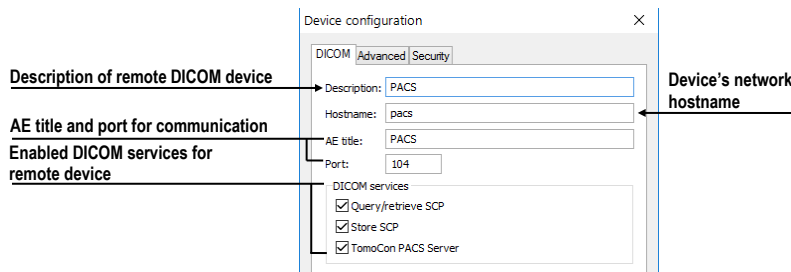
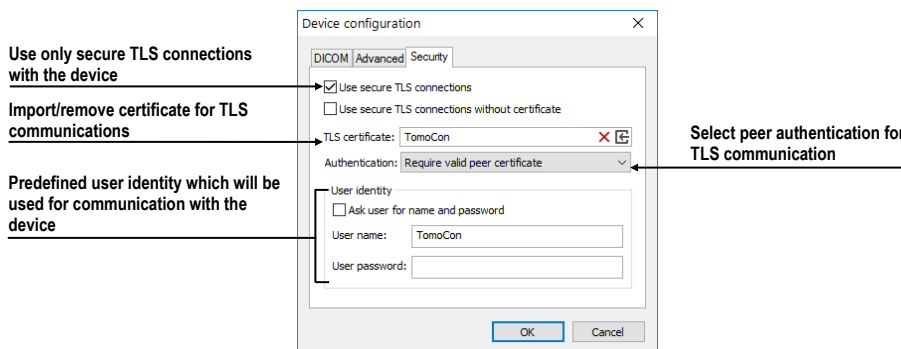

Figure 84 – Device configuration dialog – DICOM tab
Figure 86 – Device configuration dialog – Security tab
- To add a new DICOM device as a separate item, click **Add device** button. The **Device configuration** dialog (see Figure 84 - Figure 86) will be displayed to enter the required informations about a device.
- To add a new DICOM device into a previously defined group, select the group in the list and click **Add device**. The **Device configuration** dialog (see Figure 84 - Figure 86) is displayed to enter the required information about a device.
- To modify a group or a DICOM device, click **Configure...** The **Device configuration** dialog is displayed where the information concerning a group or a device can be modified (see Figure 84 - Figure 86).